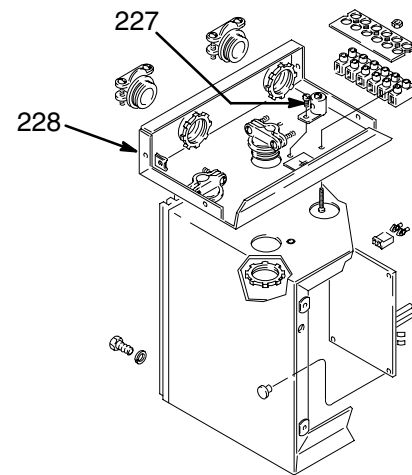

Fig. 5
1. *Heater*: wire the heater to a positively grounded power supply. The heater is grounded through the electrical wiring to a grounding screw (227) in the junction box base (228). See Fig. 5.